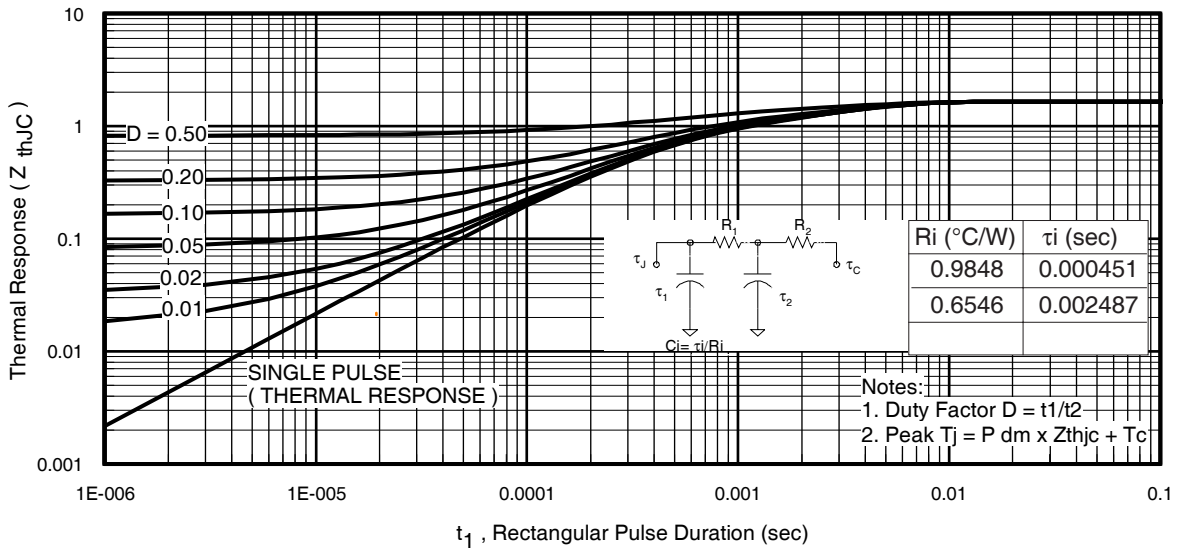

Fig 11. Maximum Effective Transient Thermal Impedance, Junction-to-Case
- ① Repetitive rating; pulse width limited by max. junction temperature. (See fig. 11).
- ② Limited by T_{Jmax} , starting $T_J = 25^\circ\text{C}$, $L = 0.11\text{mH}$, $R_G = 25\Omega$, $I_{AS} = 37A$, $V_{GS} = 10V$. Part not recommended for use above this value.
- ③ $I_{SD} \leq 37A$, $di/dt \leq 920A/\mu s$, $V_{DD} \leq V_{(BR)DSS}$, $T_J \leq 175^\circ\text{C}$.
- ④ Pulse width $\leq 1.0\text{ms}$; duty cycle $\leq 2\%$.
- ⑤ $C_{oss\text{ eff.}}$ is a fixed capacitance that gives the same charging time as C_{oss} while V_{DS} is rising from 0 to 80% V_{DSS} .
$Z_{thJC}(D, t_{av})$ = Transient thermal resistance, see figure 11)